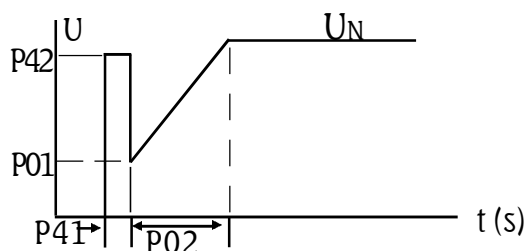

Figure 6.5 - Voltage pulse at the start
- ☒ The voltage pulse at the start, when enabled, defines the time during which this voltage pulse (P42) will be applied to the motor, so that the motor succeeds to accelerate the initial moment of inertia of the load coupled to its shaft, as shown in Figure 6.5.
- ☑ This function determines the voltage level applied to the motor, so it is able to accelerate the inertia process of the load, as shown in Figure 6.5.